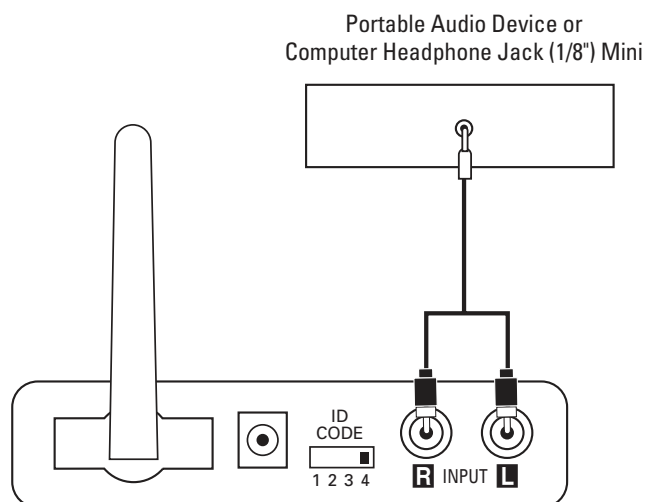

Figure 5.
**Step 1.** Connect the RCA – 1/8-inch mini-jack cable (included) to the preamp out, line out or headphone output of your portable audio player and the inputs on the transmitter module ⑭, as shown in Figure 5.